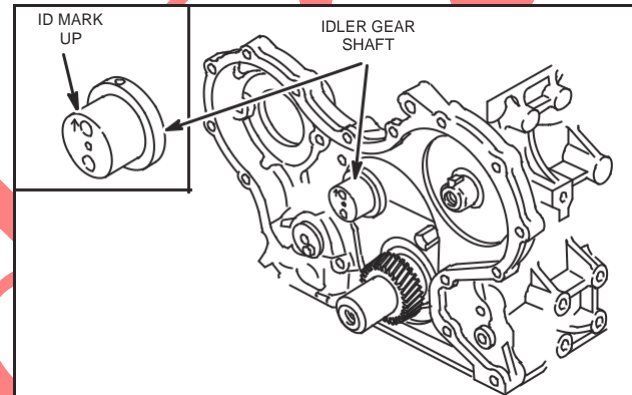

Fig. 15 – Assemble Idler Gear Shaft
6. Assemble idler gear shaft with ID mark up, as shown in Fig. 15.